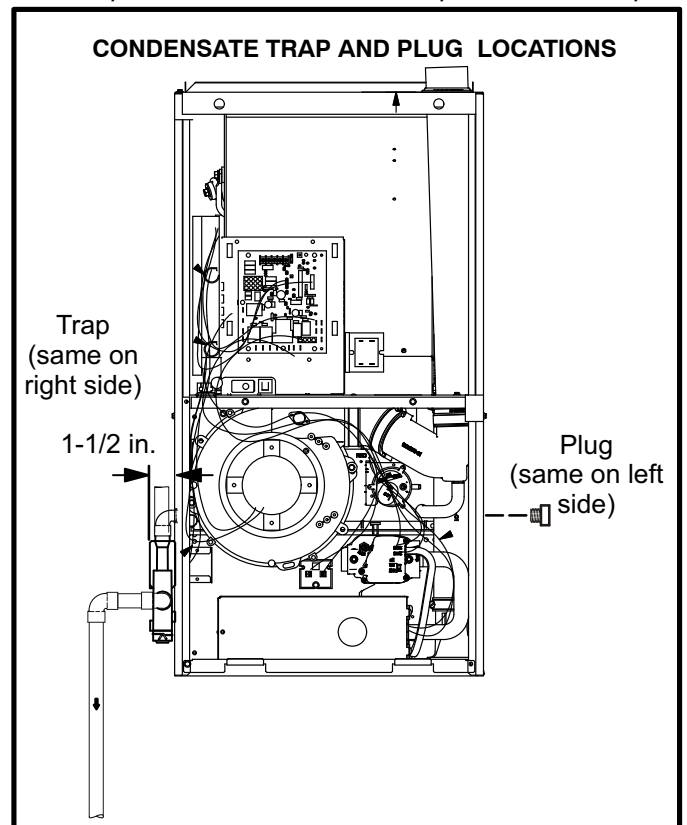

FIGURE 43
This unit is designed for either right- or left-side exit of condensate piping. Refer to figure 43 for condensate trap locations.
- 2 - For furnaces with a 1/2" drain connection use a 3/8 allen wrench and remove plug (figure 43) from the cold end header box at the appropriate location on the side of the unit. Install field-provided 1/2 NPT male fitting into cold end header box. For furnaces with a 3/4" drain connection use a large flat head screw driver or a 1/2" drive socket extension and remove plug. Install provided 3/4 NPT street elbow fitting into cold end header box. Use Teflon tape or appropriate pipe dope.